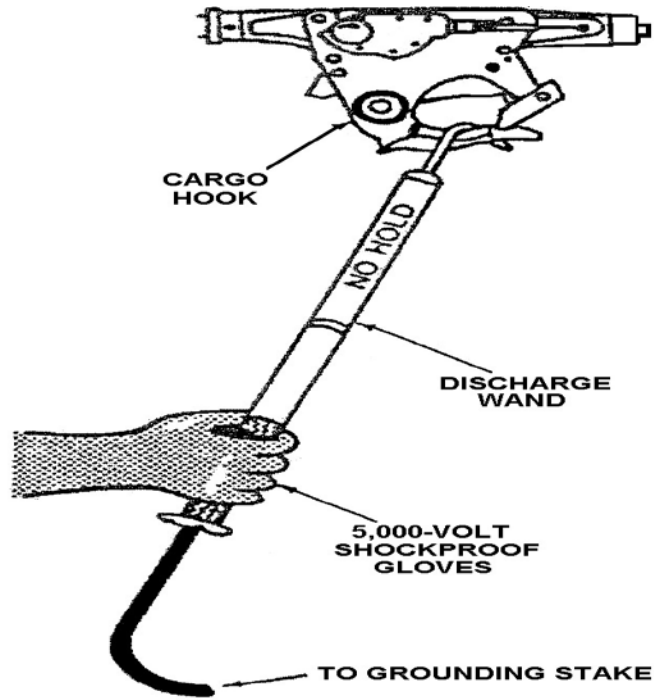

Figure 3-1
- a. Connect the static discharge wand to the cargo hookup (see Figure 3-1).